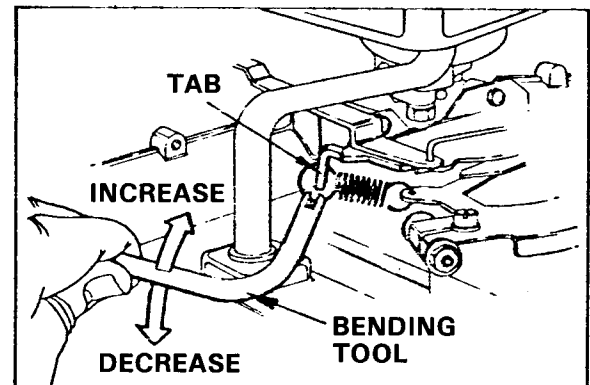

Fig. 3-31 C-161 Twin Governor Idle Spring
2. Hold throttle shaft in closed position and adjust idle speed screw to 900 R.P.M. Release the throttle. With remote control in idle position, adjust tab "A" to obtain to 1450 R.P.M. See Fig. 3-31.